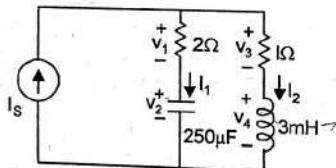

Fig. 5.
Q.4. (a) In the circuit shown in Fig. 5, $I_s = \cos 1000 t$. Determine the frequency domain circuit and determine the phasors I_1 and I_2 . Draw the phasor diagram for V_1 , V_2 , V_3 and V_4 in the same figure. (6.5)